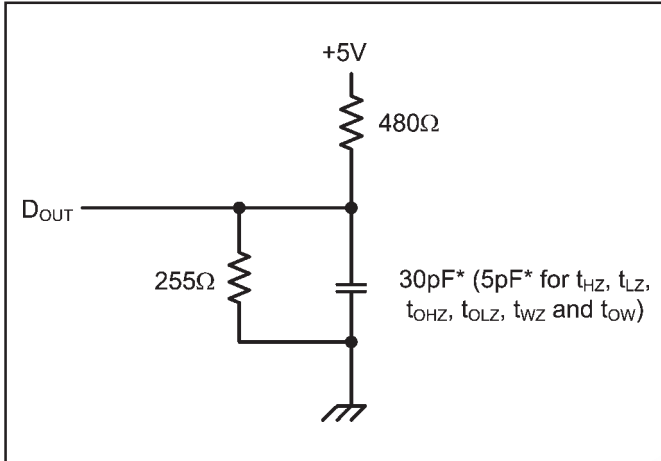

Figure 1. Output Load
8. Transition is measured  $\pm 200$  mV from steady state voltage prior to change, with loading as specified in Figure 1. This parameter is sampled and not 100% tested.
Output Load	See Figures 1 and 2